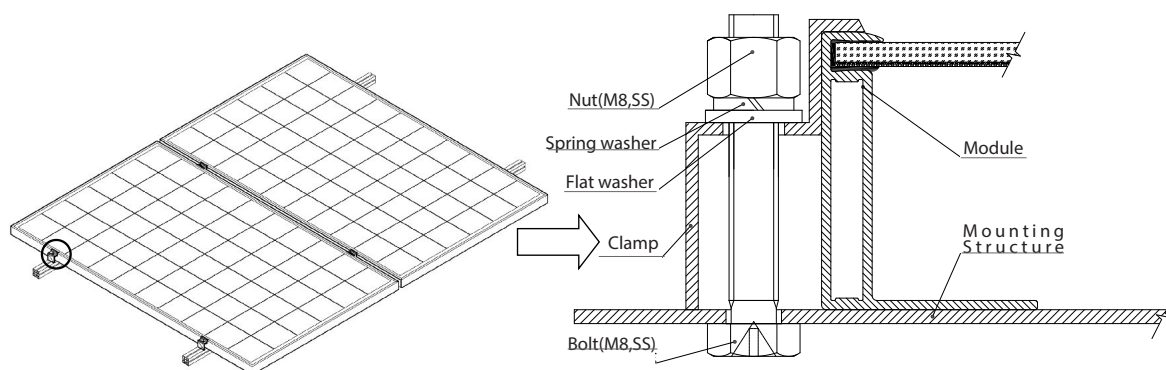

Figure 2
- **Clamping system:** Use suitable clamps to fix the Module on the support frame, as shown in Figure 2.